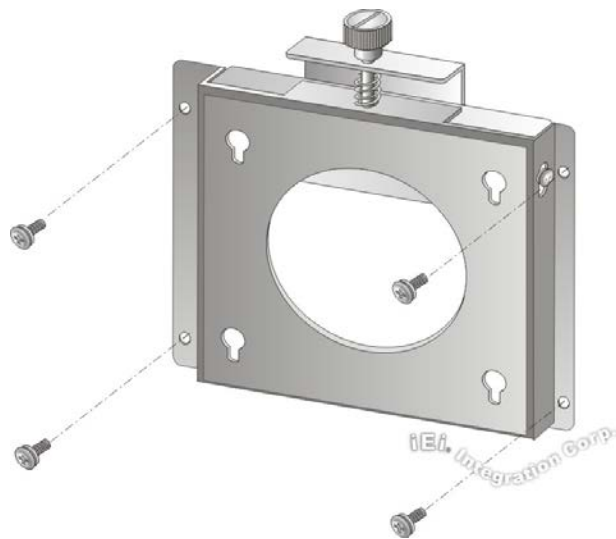

Figure 3-37: Attach Wall Mounting Kit to the Wall
- Step 1:** Attach the wall mounting kit to the mounting surface with the included screws. Make sure it is attached securely (Figure 3-37).